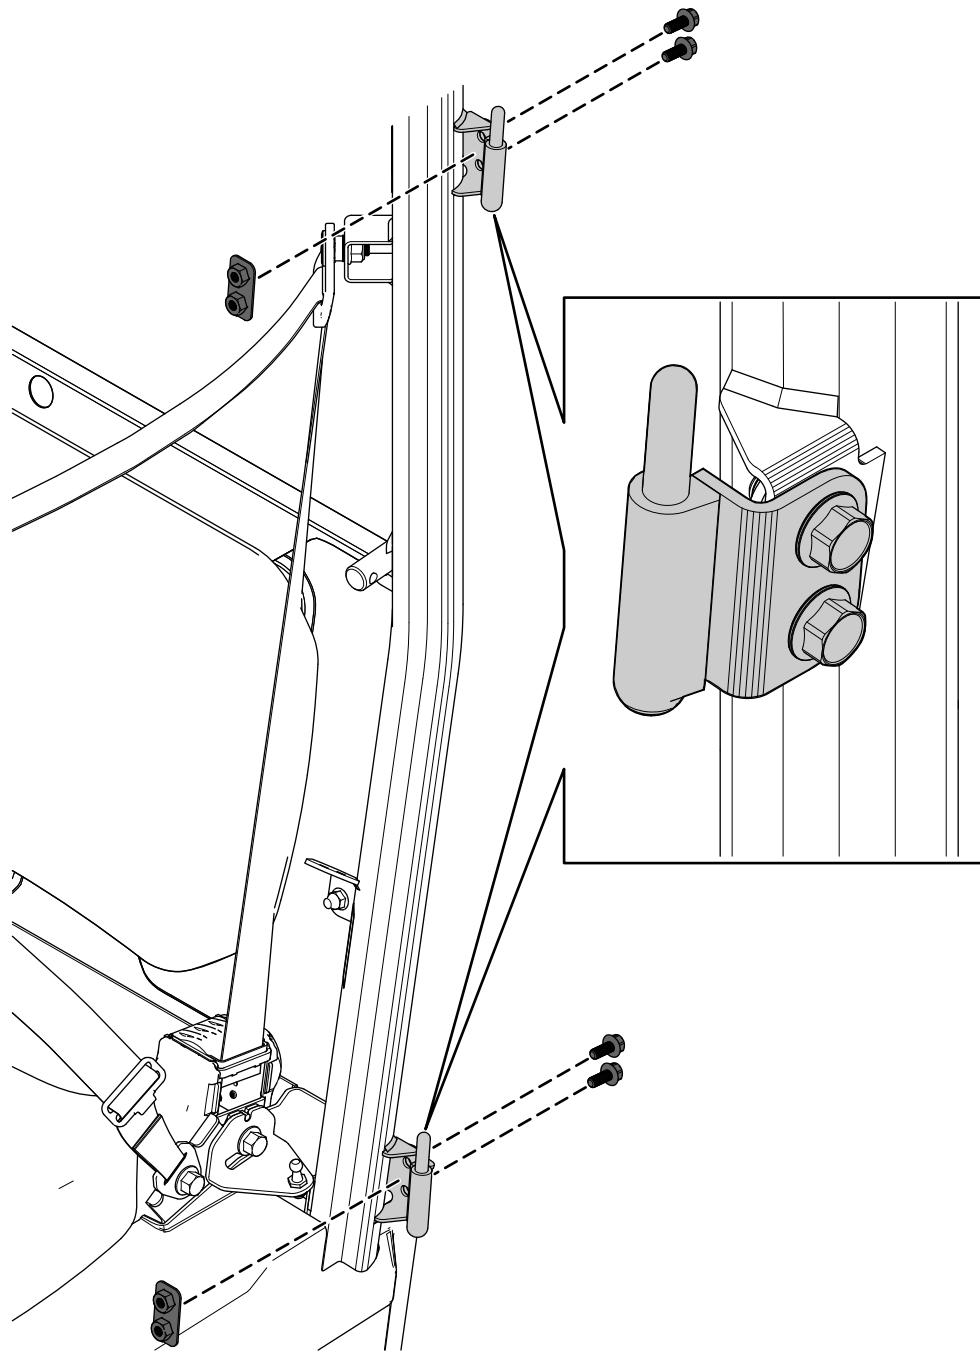

Figure 5
1. Loosely secure the 2 left door hinges to the door-pivot bracket on the ROPS using 4 flange-head bolts (M8 x 20 mm) and 2 nut plates (Figure 5).
8. When the door properly aligns with the ROPS, torque the 4 flange-head bolts (M8 x 20 mm) shown in Figure 5 to 26 N·m (230 in-lb).